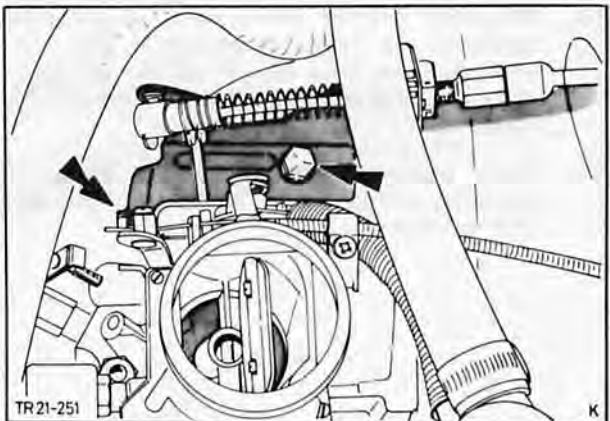

Fig. 132. Hook throttle cable to throttle linkage and secure bracket
15. Assemble throttle cable with bracket, hook up to throttle linkage, Fig. 132, and adjust. Attach choke cable, if fitted, and adjust.